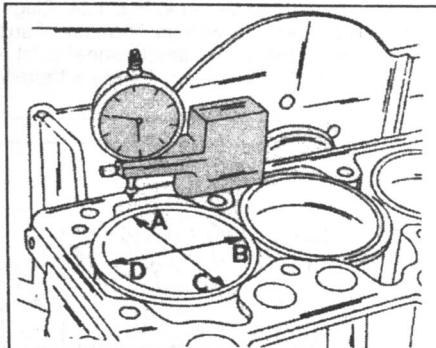
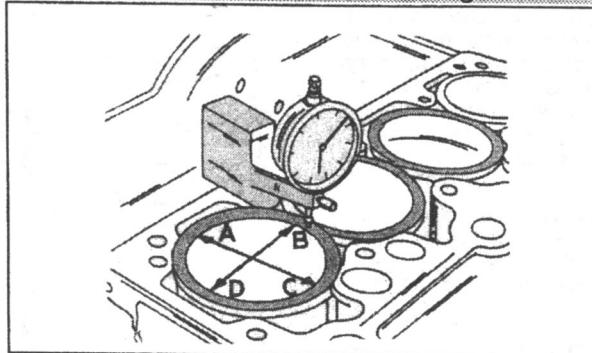

Fig. 1.25. — Place the dial gauge with a suitable block onto the cylinder block face. The stylus is placed in turn over points A to D.
Fig. 1.26. — Second stage to check the cylinder liner protrusion. The dial gauge stylus is now placed over the shoulder of each liner, at points A to D.
- Measure the protrusion of each liner as shown in Fig. 1.25, using the gauge shown. First place the stylus at points A to D against the cylinder block face and write down each dimension. Then place the stylus against the edge of the liner at positions A to D in Fig. 1.26, again writing down the dimension. Compare the value obtained for each point. The difference between the first and the second measurement must not exceed 0.07 mm. If this is the case, there may be some foreign matter between the liner and the liner seating. Remove the liner and check.